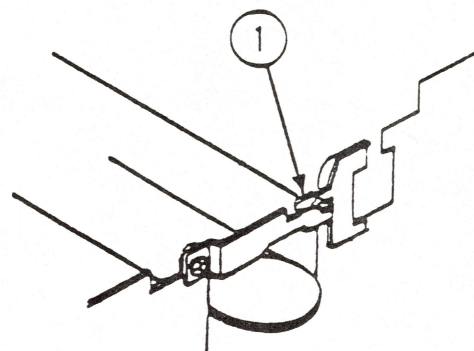

FIGURE 7
11. Remove the wire from the wire holder on the right side of the printer (see Figure 7, #1).